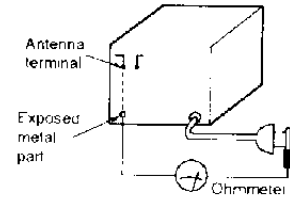

Fig. 1
3. Measure the resistance value with ohmmeter between the jumper AC plug and each exposed metal cabinet part ,such as screwheads ,antenna ,control shafts ,handle brackets , etc . Equipment with antenna terminals should read between 3MΩ and 5.2MΩ to all exposed parts* . (Fig. 1) Equipment without antenna terminals should read approximately infinity to all exposed parts . (Fig. 2)